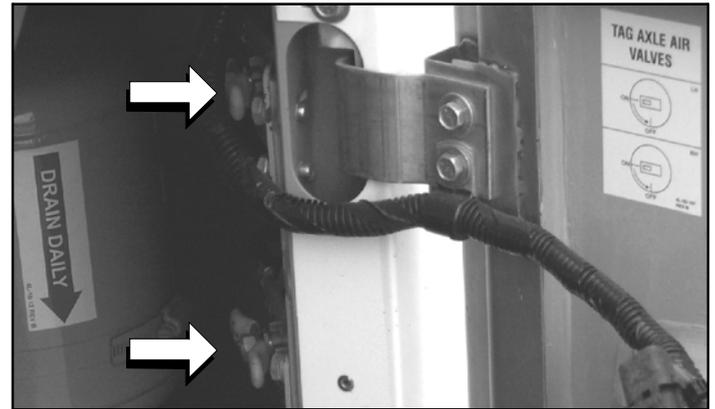

FIGURE 75
3. Place the air release valve "ON" to reinflate the air springs bellows (Figure 75).
3. Place the air release valve “ON” to reinflate the air springs bellows (Figure 75).